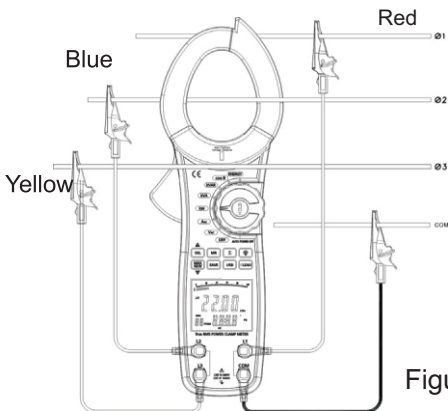

Figure 6
3. Connecting method (see figure 6, 7, 8):
- When measuring 3 phase 4 wires, connecting the Meter as figure 6.
In figure 6 **ΣW = W1 + W2 + W3**.
3. The connecting method of 3 phases 4 wires or 3 phases 3 wires, refer to figure 6 and 15
3. The connecting method of 3 phase 4 wires and 3 phases 3 wires, see figure 6 and 15